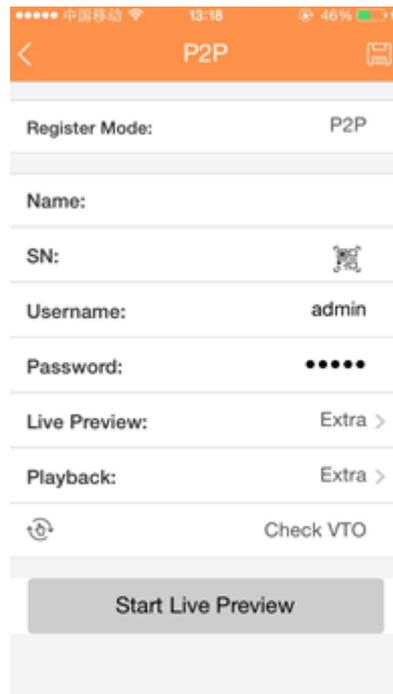

Figure 4-132
3. Tap Device manager button, you can use several modes (P2P/DDNS/IP and etc.) to add the device. Click  to save current setup. Tap Start Live preview to view all-channel video from the connected device. See Figure 4-132.